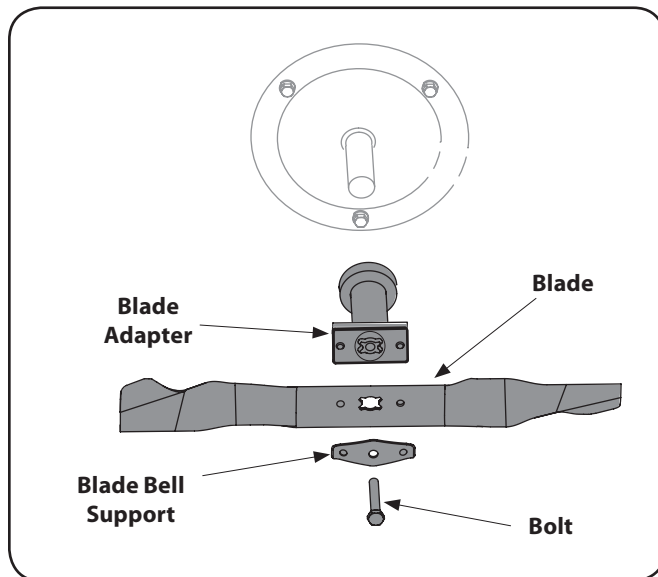

Figure 7-1
2. Remove the bolt and the blade bell support which hold the blade and the blade adapter to the engine crankshaft. See Figure 7-1.
3. Remove blade and adapter from the crankshaft. See Figure 7-1.
4. Remove blade, adapter, and related hardware as instructed under "Blade Care" above. See Figure 7-1.